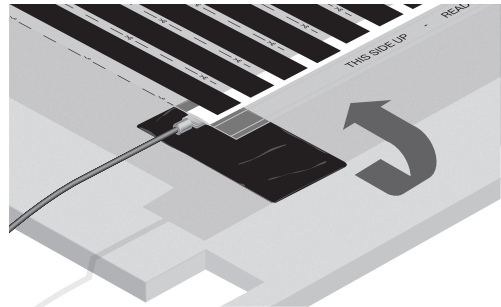

Fig. 9. Cover terminals with tape
- 14.** All connections to the rows of heating foil shall be covered with a piece of mastic tape 50mm wide and approx. 100mm length. Stick half of the tape to either bottom or top and fold it around to the other side. (fig.9)